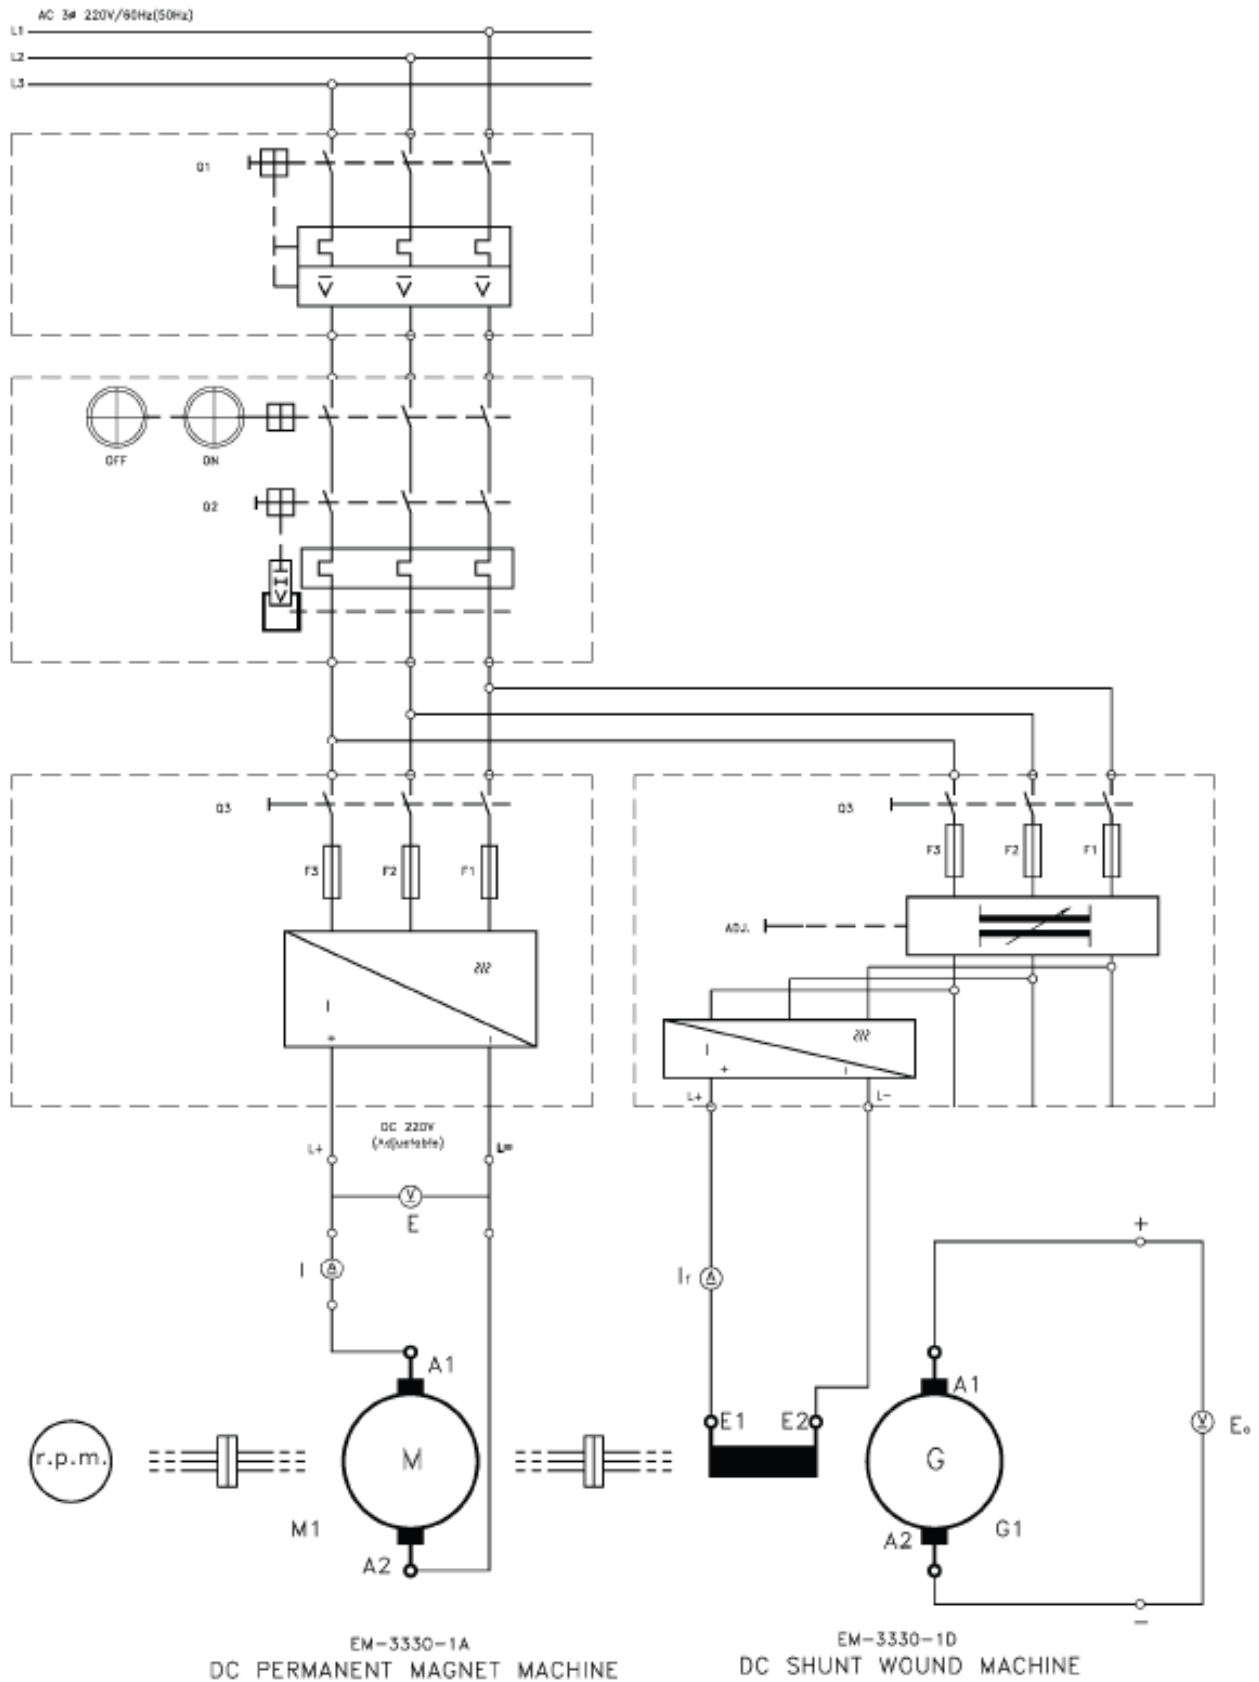
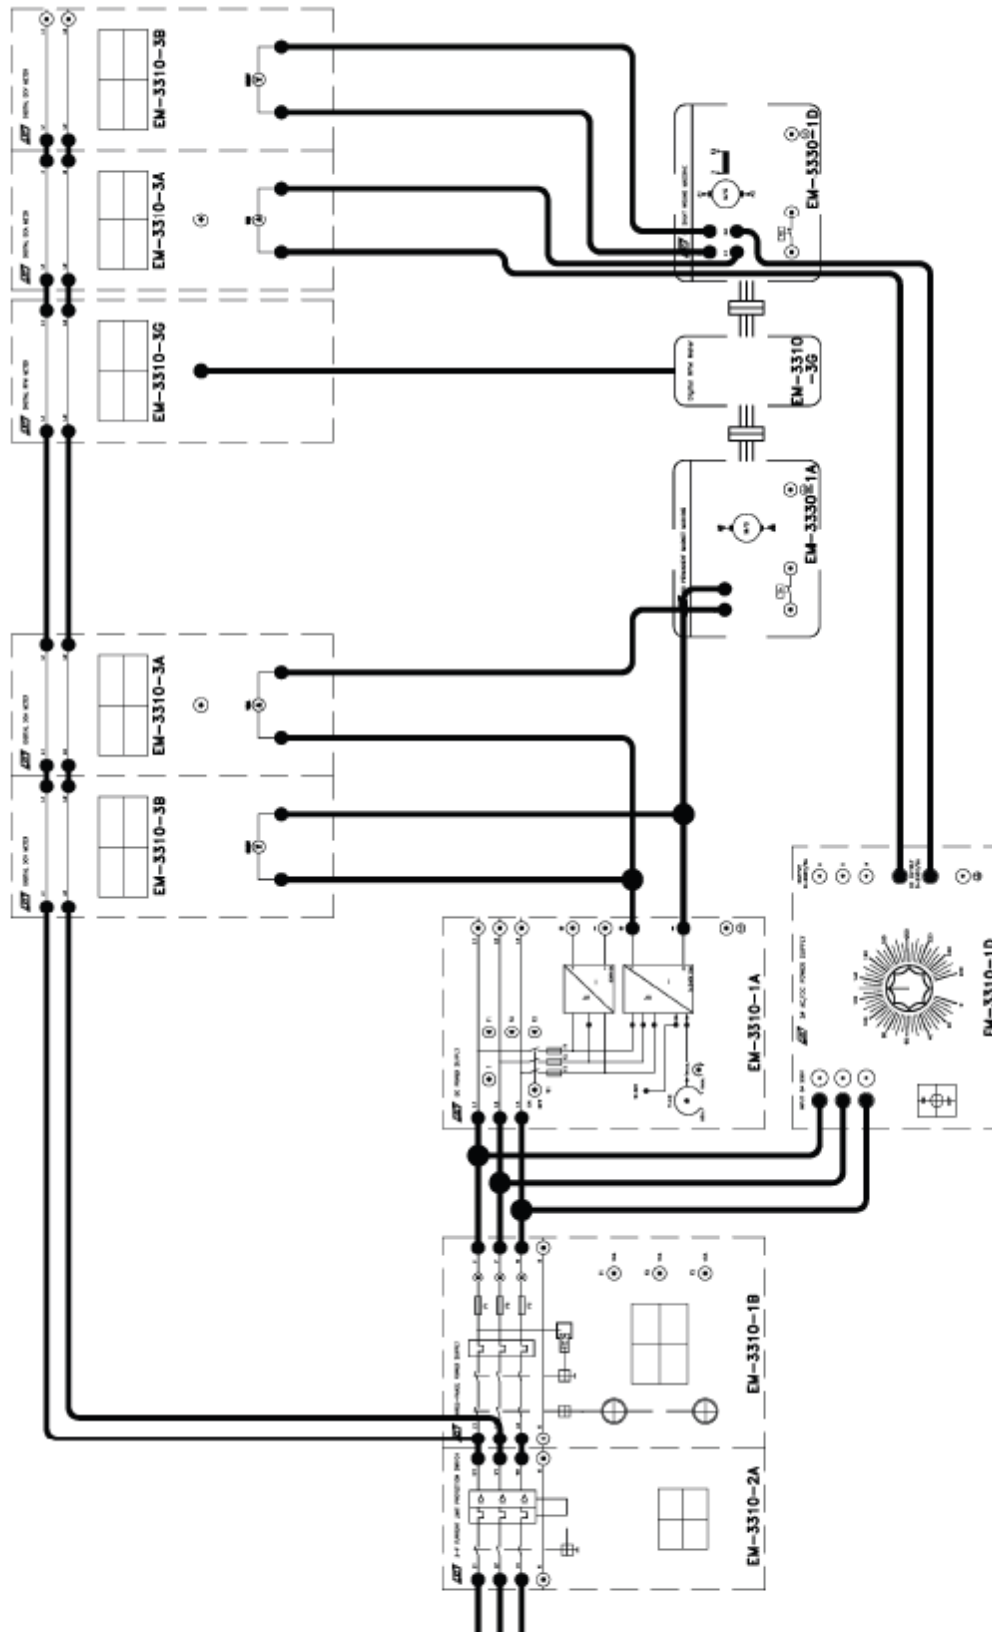

Fig. 9-1-1 Circuit diagram for no-load saturation characteristic test
Fig. 9-1-2 Connection diagram for no-load saturation characteristic test
2. Install the required Modules in the Experimental Frame. Construct the circuit in accordance with the circuit diagram in Fig. 9-1-1 and the connection diagram in Fig. 9-1-2. Have the instructor check your completed circuit.